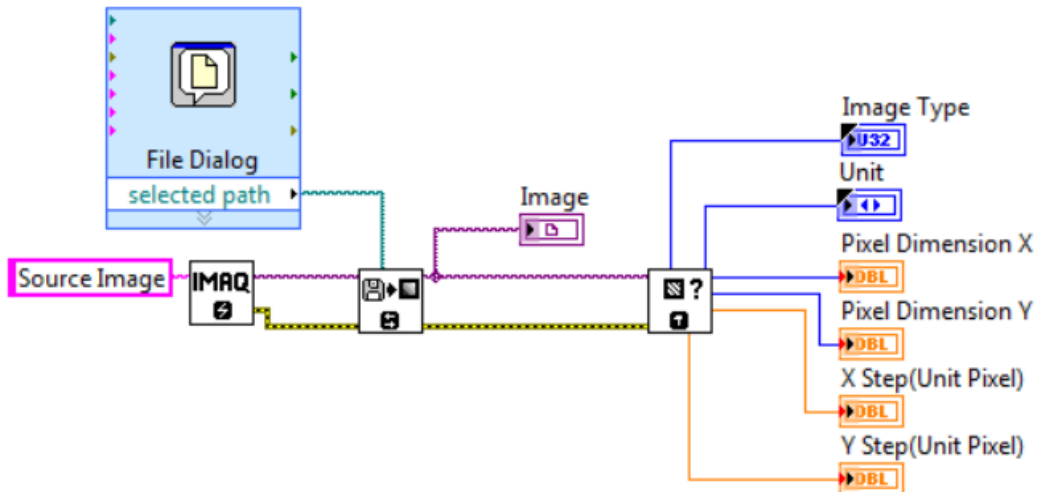

Figure 5: Block Diagram of Exercise 1
3. For the **Block Diagram** window, wire all the controls and indicators as illustrated in Figure 5 by executing the following steps.